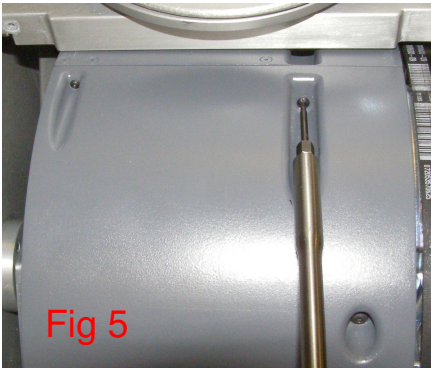

Fig 5
2. Using the 2mm bit with the T-handle driver, remove 1 Panhead screw. 2500-06 (Fig 5)